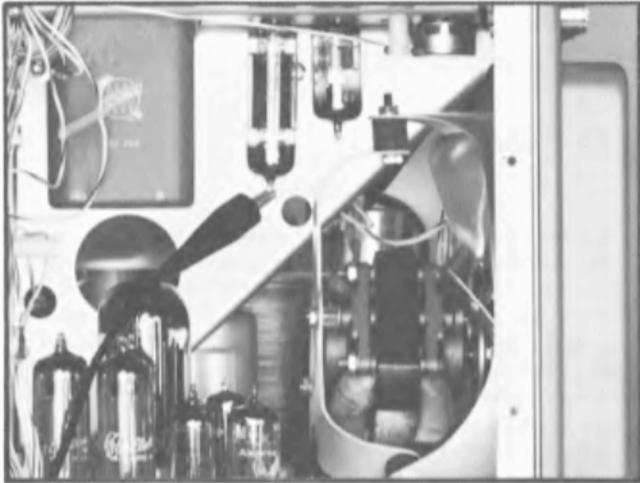

Fig. 5-2. Test lead connected to V800.
2. Fasten the alligator clip of a test lead to the glass tip of V800. See Fig. 5-2. Connect the other end of the test lead to the lower beam vertical INPUT.